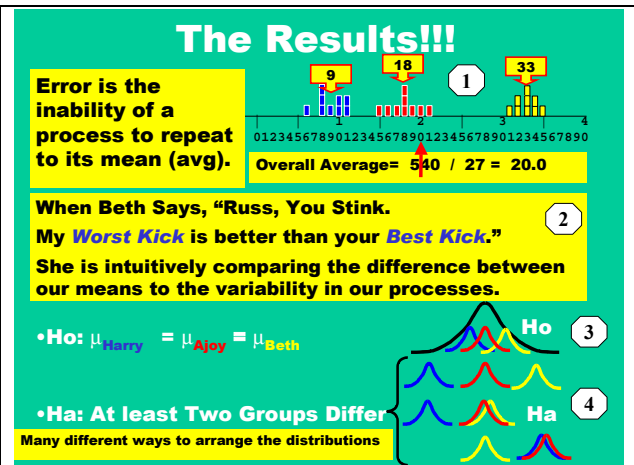

Figure 8
Figure 8 allows us the first peek at the kicking contest data. The results are plotted in the upper right part, of Figure 8, and I lost pretty badly. My average (blue) was 9 feet. Ajoy (red) averaged 18 feet and Beth (gold) averaged 33 feet. That day Beth yelled out a cruel schoolyard taunt. She said to the author [Label (2)] “Russ, you Stink! My worst kick is better than your best kick”.
ANOVA is investigated via hypothesis testing and we need to understand the form of the hypothesis used in the ANOVA technique. Ho is that all contestants are all equally good kickers [see the picture labeled (3) in Figure 8]. If Ho is true, the three observed distribution of kicks come from one parent distribution (the black distribution). If Ho is true and all kicks really came from one parent distribution and the differences observed between the three kicking distributions are the result of a “good day”- “bad day” effect. If Ho is true, Ajoy or myself would be just as likely as Beth to win the next contest.
Ha [see the pictures labeled (4) in Figure 8] is that at least two groups differ. There are many situations where Ha could be true and three of them are pictured. All contestants could have different averages. Or I could be bad, while Beth and Ajoy are equally good. Or Ajoy and myself could be equally as good, and both of us better than Beth. The three pictures shown in Figure 8 all satisfy, though in different ways, the requirement that “at least two differ”
Please step back for a second and look at the plot of the kicks in Figure 8. Without using any statistics, do you think the three children have equal averages? Decide now and see, at the end, see if the SAS output supports your opinion.